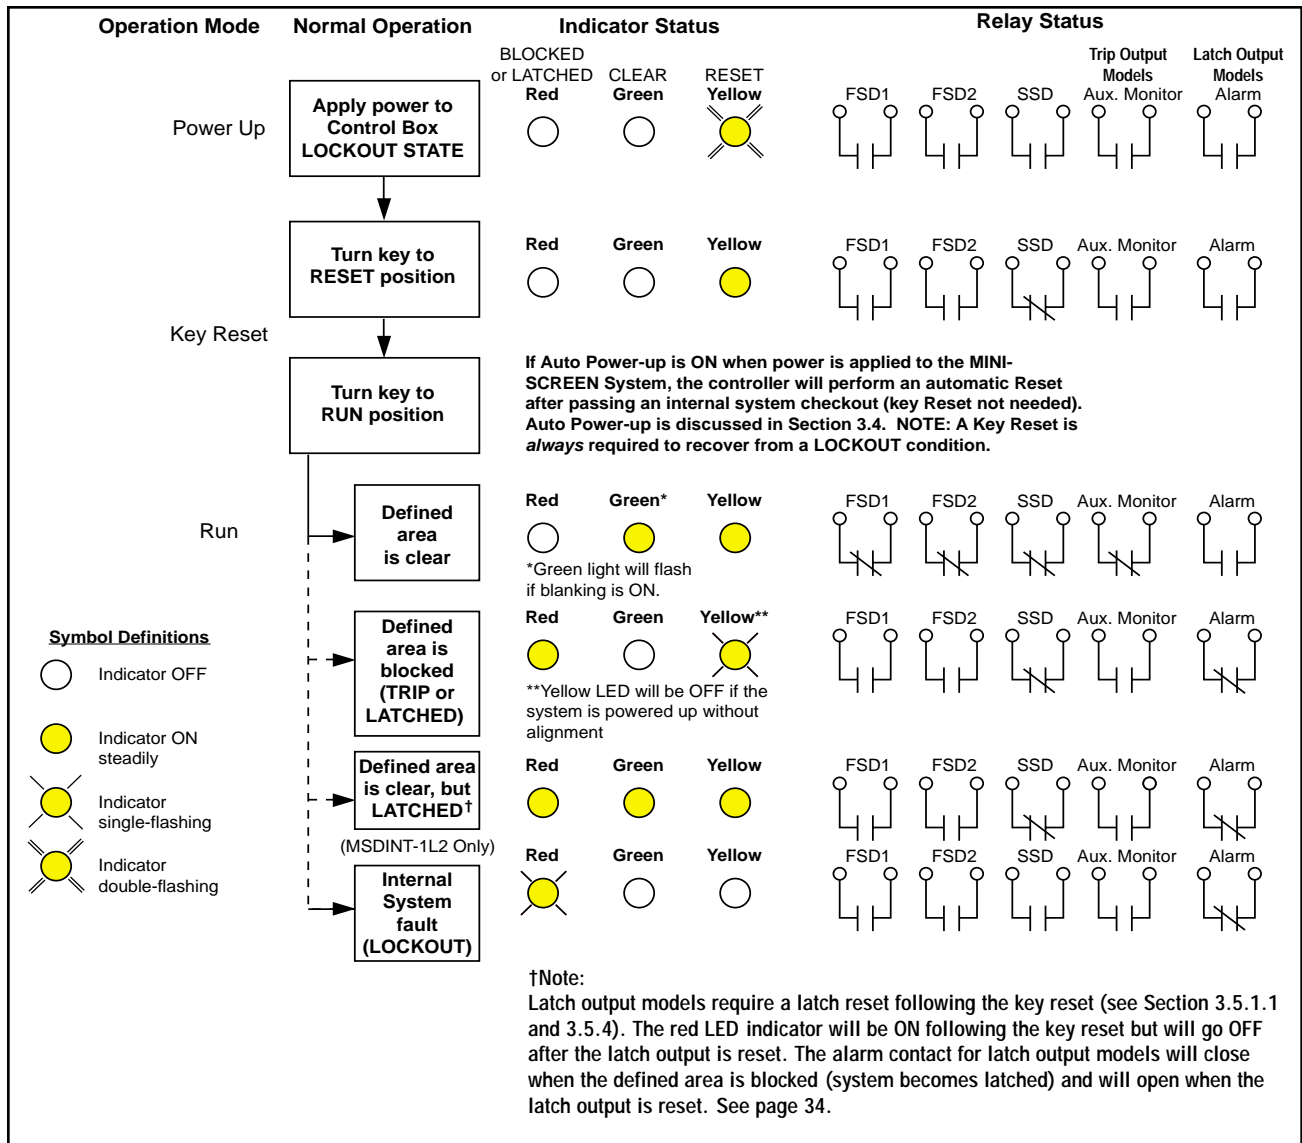

Figure 5. MINI-SCREEN System status indicators and associated output conditions
- Upon power-up of the MINI-SCREEN System (unless Auto Power-up is ON; see Figure 5, page 11), or
- If power to the MINI-SCREEN System is interrupted (unless Auto Power-up is ON; see Figure 5).
A lockout condition resulting from an internal system fault is indicated by a flashing red status indicator LED on the control box and the receiver unit. The green and yellow LEDs will be OFF. See Figure 5, page 11.